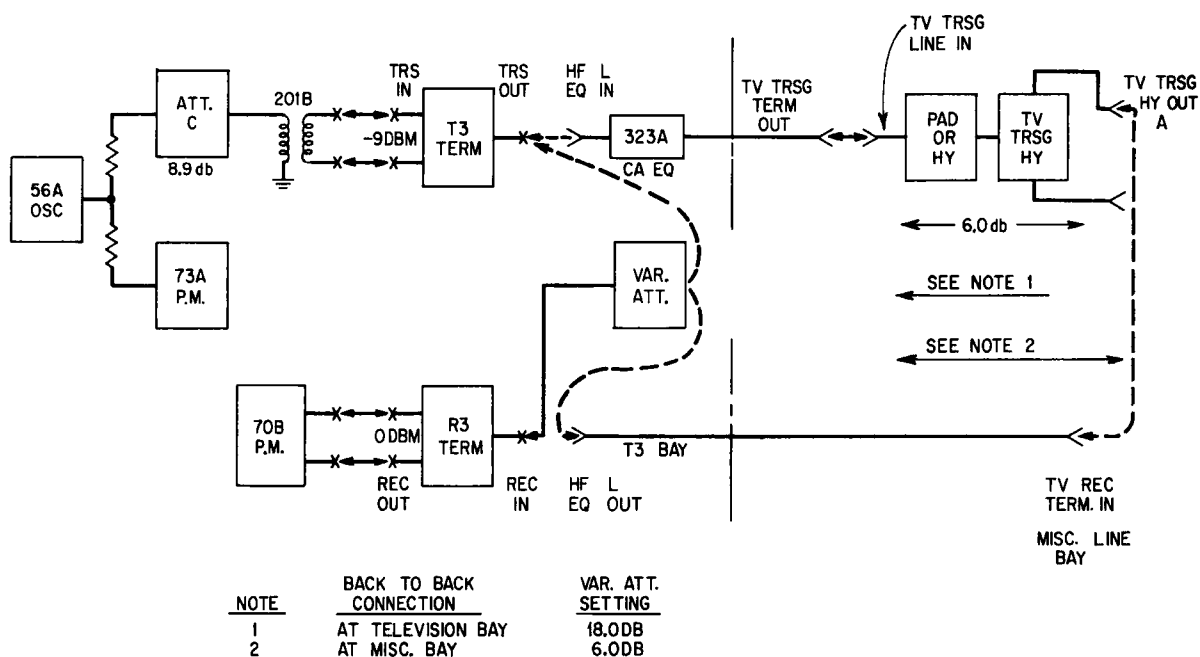

Fig. 8 - Test Arrangement for Adjusting 226J and 226K Equalizers and Measuring Terminals Back-to-Back
- (1) Connect receiver under test to a T3 terminal as shown in Fig. 8. Make no connections to the TRANS IN jacks. The T3 terminal should have its carrier adjusted as per Part 8. When the terminals are connected back-to-back the FREQ METER should read 0 ± 2 , indicating that both carrier frequencies are adjusted properly.
- (2) Connect the 37B set to the receiver output using the 201B transformer on the receiving console and tune it to 4.139 mc.
- (3) Adjust the tuning capacitors on the 542A carrier suppression filter for a minimum output.
- (1) Set up test arrangement shown in Fig. 8, Note 1, with the TRS OUT jacks of the T3 terminal connected directly to the input of the 75-ohm variable attenuator set for 18 db. The output of the attenuator is connected to the REC IN jacks of the R3 terminal.
- (2) Set carrier level control key to BAL position in the T3 bay.
- (3) Operate the POL DIS key to TST position in the R3 bay jack panel.
- (4) Set the 56A oscillator to 900 kc and adjust for 0 dbm output on the 73A power meter.
- (5) Set the 70B meter to 124 ohms and calibrate for 1 volt P/P.
- (6) Adjust the variable attenuator (at the input of the R3 receiver) to obtain $0 \pm 0.05 \text{ dbm}$ on the 70B power meter. The attenuator should read $18 \pm 1 \text{ db}$.
- (7) Set the 56A oscillator to 250 kc and adjust for 0 dbm output on the 73A power meter.
- (8) Adjust the 226J equalizer dial on the T3 terminal so that the 70B power meter, on the output of the R3 terminal, reads the same as 900 kc measured in Step (6).
(9) Set the 56A oscillator to 50 kc and adjust for 0 dbm output on the 73A power meter.
(10) Adjust the 226K equalizer dial on the T3 terminal so that the 70B power meter, on the output of the R3 terminal, reads the same as 900 kc measured in Step (6).
(11) Operate POL DIS key to NOR position.
18.04 If the T3 and R3 television terminals in the same office are physically separated so that it is not possible to connect their carrier sides together with a patch cord, an alternative procedure may be applied wherein the carrier sides of the T3 and R3 television terminals are connected together at the miscellaneous bay. The miscellaneous bay serves to connect television terminals to the L3 line connecting equipment. However, this connection introduces about 12 db additional loss due to the equalized connecting cable. This is compensated for by changing the variable attenuator to 6 db, as indicated in Fig. 8, Note 2. Apply the procedure given in Paragraph 18.03 to adjust the 226J and 226K equalizers.